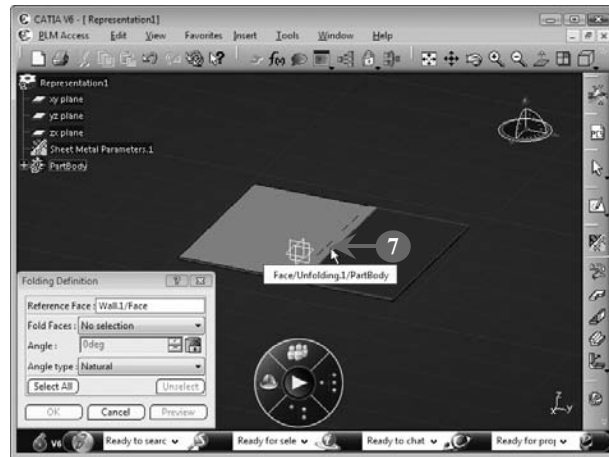

FIGURE 6.69
The base wall is added to the **Folding Definition** dialog box (Figure 6.69).
7. Select the bending face, as shown in Figure 6.69: